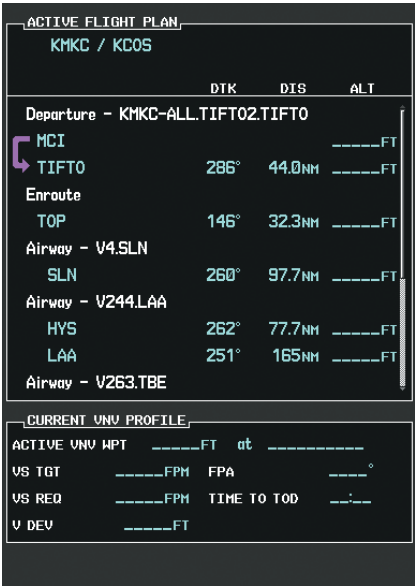

Figure 5-110 V4 is Loaded in the Flight Plan
l) V4 is now loaded into the flight plan as shown in Figure 5-110.